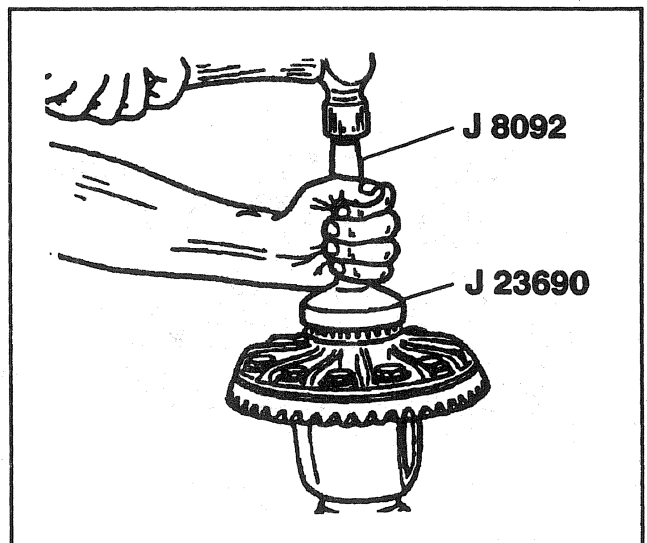

Figure 26—Installing Differential Bearings
10. Place the proper shims on the differential side of bearing hub (ring gear side) and drive the differential bearing onto the hub using J 8092 and J 23690 (Figure 26).